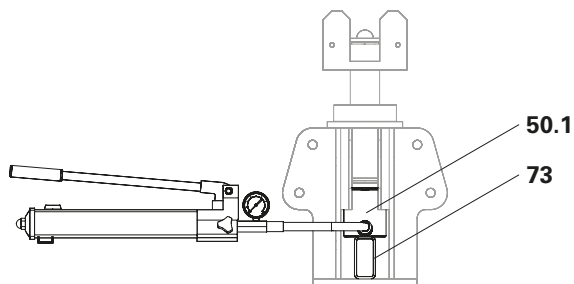

Fig. C2.03a
2. Slide the Head Spindle Tube ATS (73) into the head spindle (2.1) in an upright position.
3. Position the hydraulic cylinder (50.1) on the Head Spindle Tube ATS (73). (Fig. C2.03a)